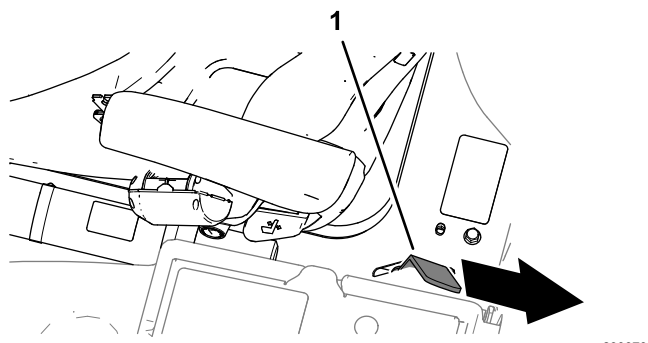

Figure 55
3. Fully lower the platform and move the platform-latch handle toward the rear of the machine until the latch hooks fully engage the locking bar (Figure 55).